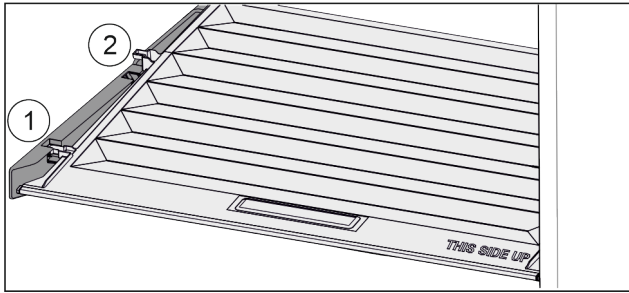

Fig. 124
- ▶ Pull the lid up at the front to the opening in the retaining parts Fig. 124 (1).
- ▶ Lift from the back and pull it up and out Fig. 124 (2).